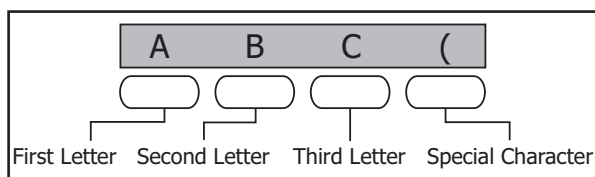

Figure 7: Thinline/Aqualite/Wireless Select Keys
**Note: On Wireless, Thinline and Aqualite keypads,** when instructed to press the first Select key, press the far left Select key; the second Select key is the second from the left; third Select key is second from the right; and the fourth Select key is the far right key. See Figure 7.